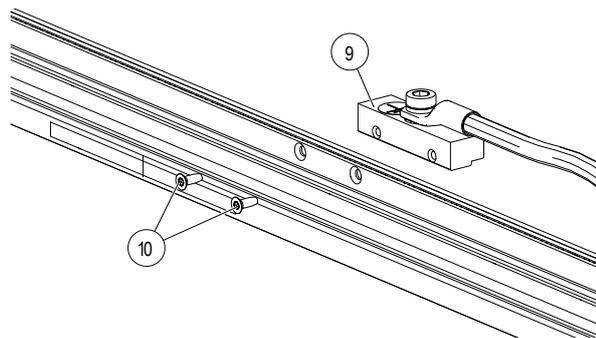

Fig. 95: Tighten the 2 self-tapping screws
- Tighten the 2 self-tapping screws (W5154-K30X8-ES) (10) with a torque shut-off screwdriver (e.g. TorqBee, tightening torque: 2 Nm (see Fig. 95).